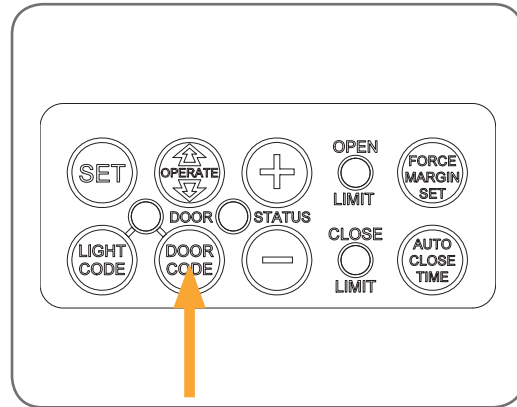

fig 31
- Press and hold the DOOR CODE button (Fig. 31).